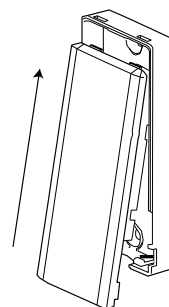

Figure 7: Closing the device cover
4. Clip the covers on to the device base and magnet base. See Figure 7.